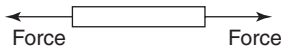

Figure 1.1
**Tension** is a force that tends to stretch a material, as shown in Figure 1.1. For example,